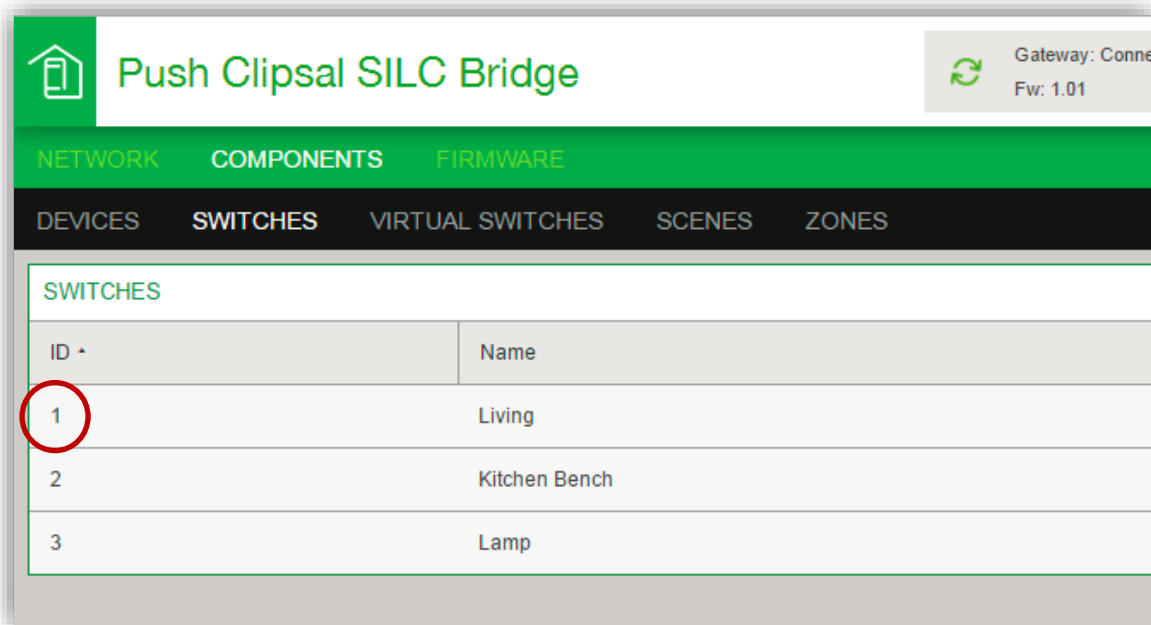

Figure 5 - Highlighting the switch ID required to integrate with a Clipsal SILC switch into Push, accessible under COMPONENTS -> SWITCHES tab
- a. Clipsal SILC Component ID: The ID of the Clipsal SILC device you wish to control, this can be found in the component tab, of the component type you are importing (in this example a switch component is being programmed), in the Push Clipsal SILC Bridge (PCSB) configuration page (see Figure 5)
- a. Zone Name: The name of the zone you wish add to the page and be able to control, this can be found in the zones tab in the Push Clipsal SILC Bridge (PCSB) component configuration pages (see Figure 5)